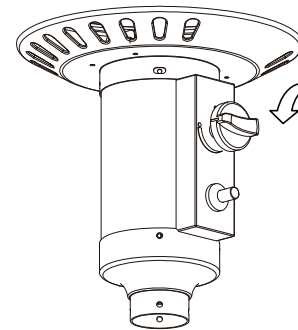

Figure 1
2. Press and turn the control knob to HIGH (maximum) position (counter-clockwise 90°). (Figure 1)